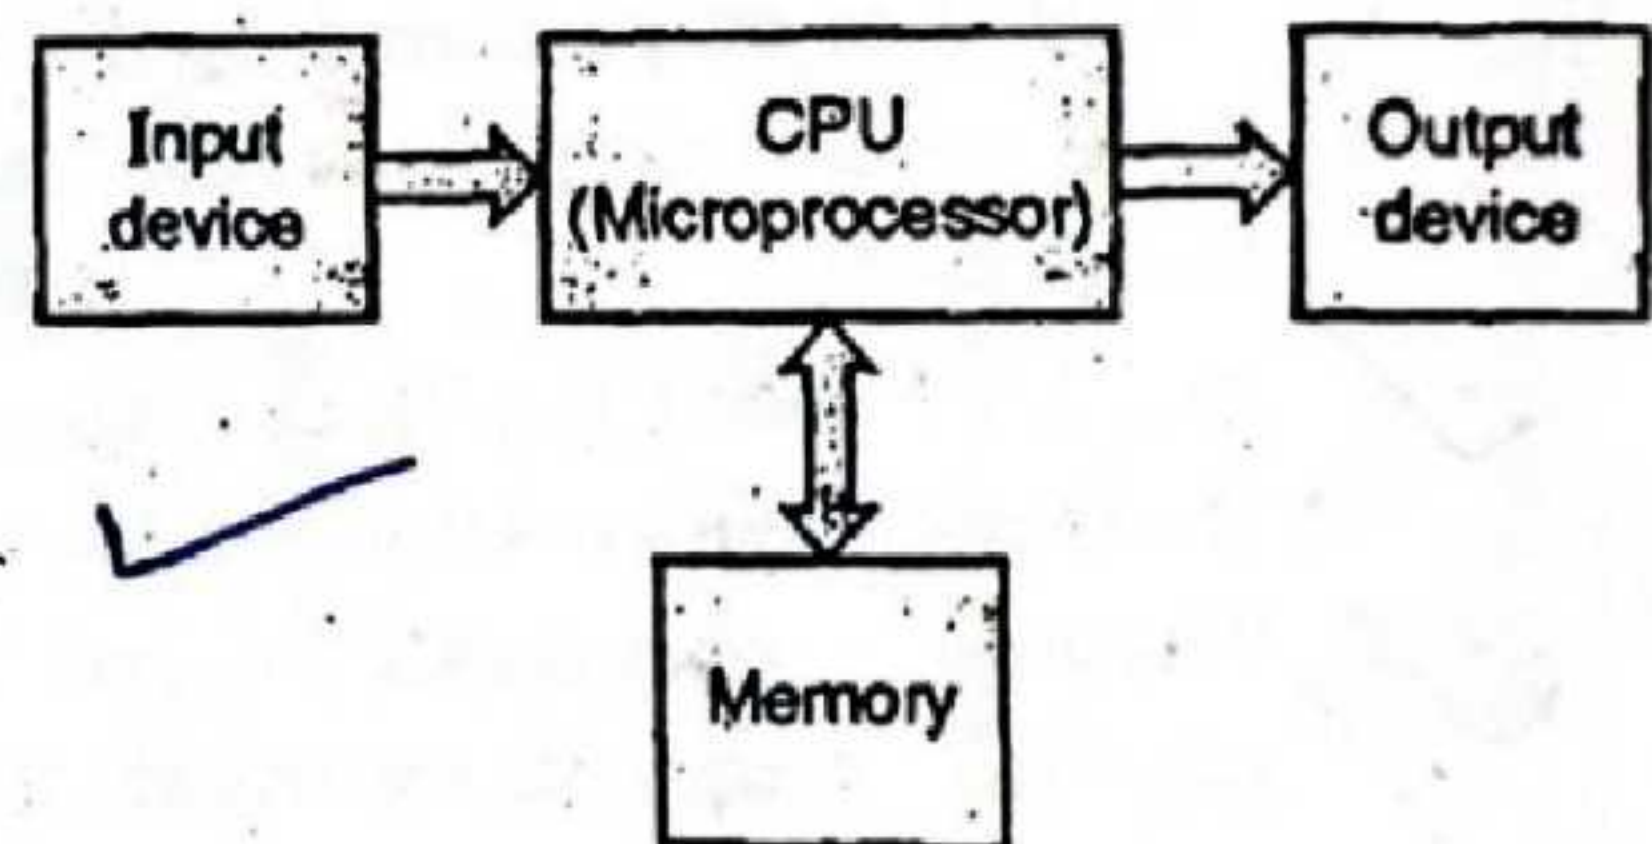

Fig. 1.1.1 : Block diagram of a digital computer
- A digital computer is programmable. Fig. 1.1.1 shows the block diagram of a digital computer.
- ✓ Fig. 1.1.1 shows the block diagram of a microprocessor based system. It consists of four components microprocessor, memory, input and output.